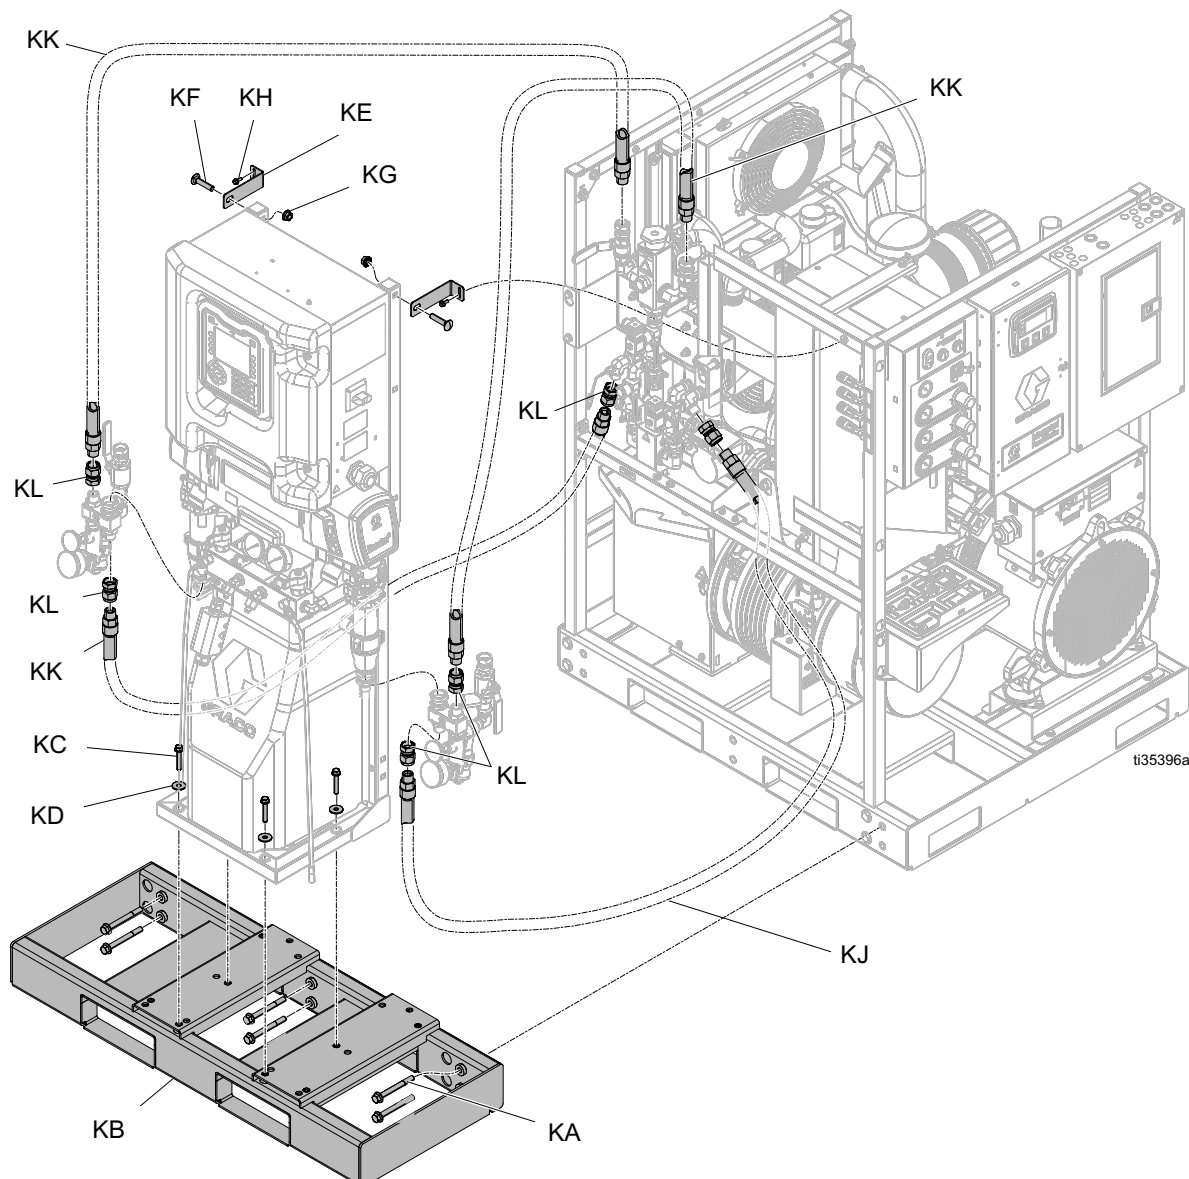

FIG. 15: Install Reactor 2 Pallet Extension (Shown with Reactor 2 Electric)
4. Secure both brackets to the upper frame rail of the Integrated PowerStation using two serrated bolts (KH).
5. **Connect Component A and B Hoses**, page 31. Install the coupled hoses (KJ, KK) and swivel fittings (KL) according to FIG. 15.
NOTE: Refer to FIG. 15 (page 26) for the hose configuration used with the pallet extension kit.